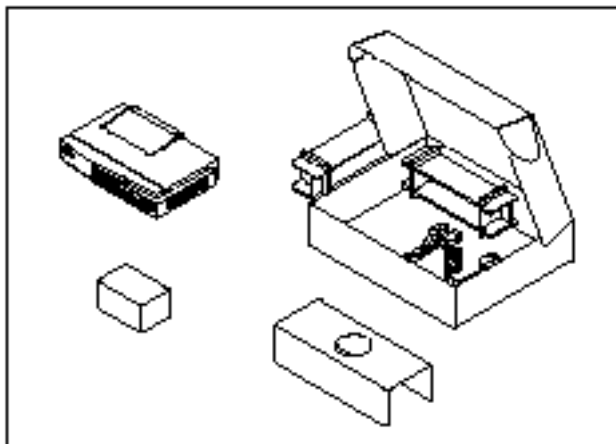

Figure 2-1 Get the hub and power adapter
2.1.1 Take out the hub and the power adapter from the packing box, as shown in *Figure 2-1*.